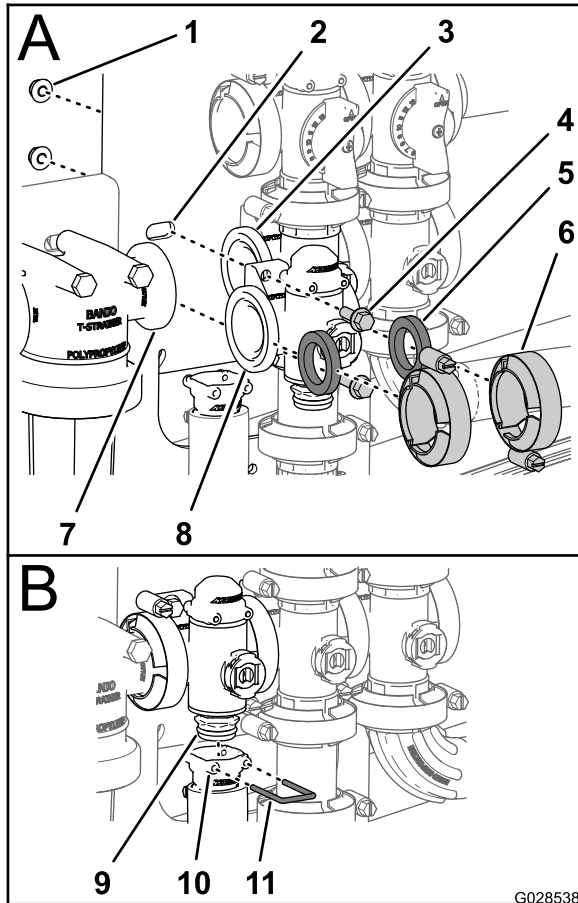

Figure 61
1. Align a 1 gasket between the flanges of the rate control valve manifold and the pressure filter head (A of Figure 61).
4. Assemble the rate control valve manifold, gasket, and agitation valve manifold with a clamp tightened hand tight (A of Figure 61).
5. Assemble the rate control valve to the valve mount with the 2 flanged-head bolts and 2 flanged locknuts (A of Figure 61) that you removed in step 3 of Removing the Rate Control Manifold Valve (page 56) and torque the nut and bolt to 1017 to 1243 N-cm (90 to 110 in-lb).
6. Assemble the outlet fitting onto the lower endcap fitting of the manifold valve (B of Figure 61).
7. Secure the endcap fitting to the outlet fitting by inserting a retainer into the socket of the outlet fitting (B of Figure 61).
2. Assemble the rate control valve manifold, gasket, and pressure filter head with a clamp tightened hand tight (A of Figure 61).
3. Align a 1 gasket between the flanges of the rate control valve and the agitation valve manifold (A of Figure 61)